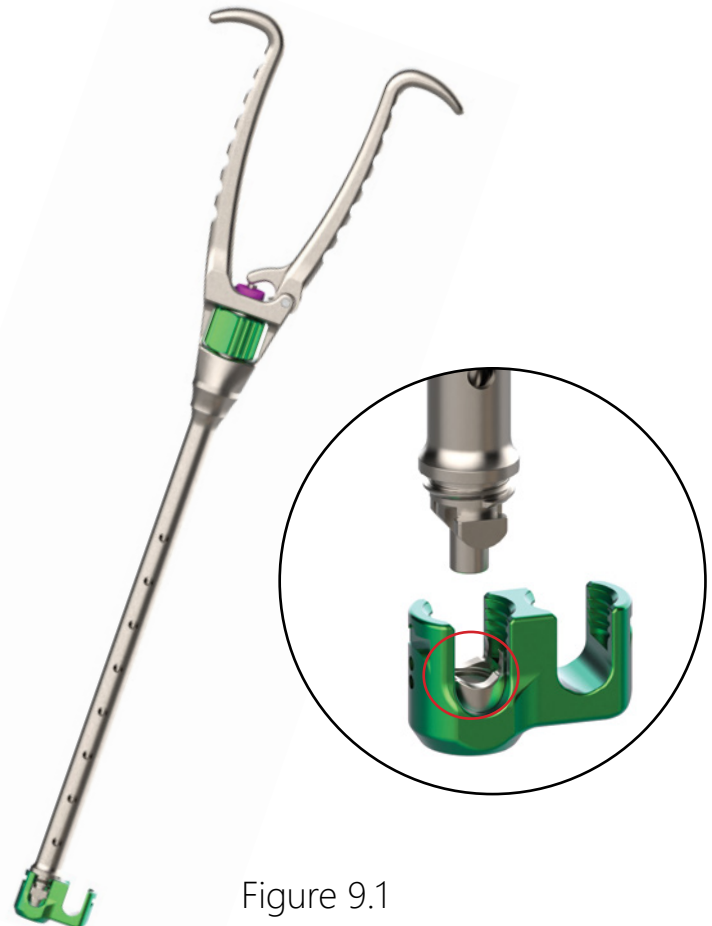

Figure 9.1
1. Thread the distal end of the Housing Inserter into the threads of the Modular Dual Rod Housing side, noted by the internal locking feature to the Modular Shank (Figure 9.1).